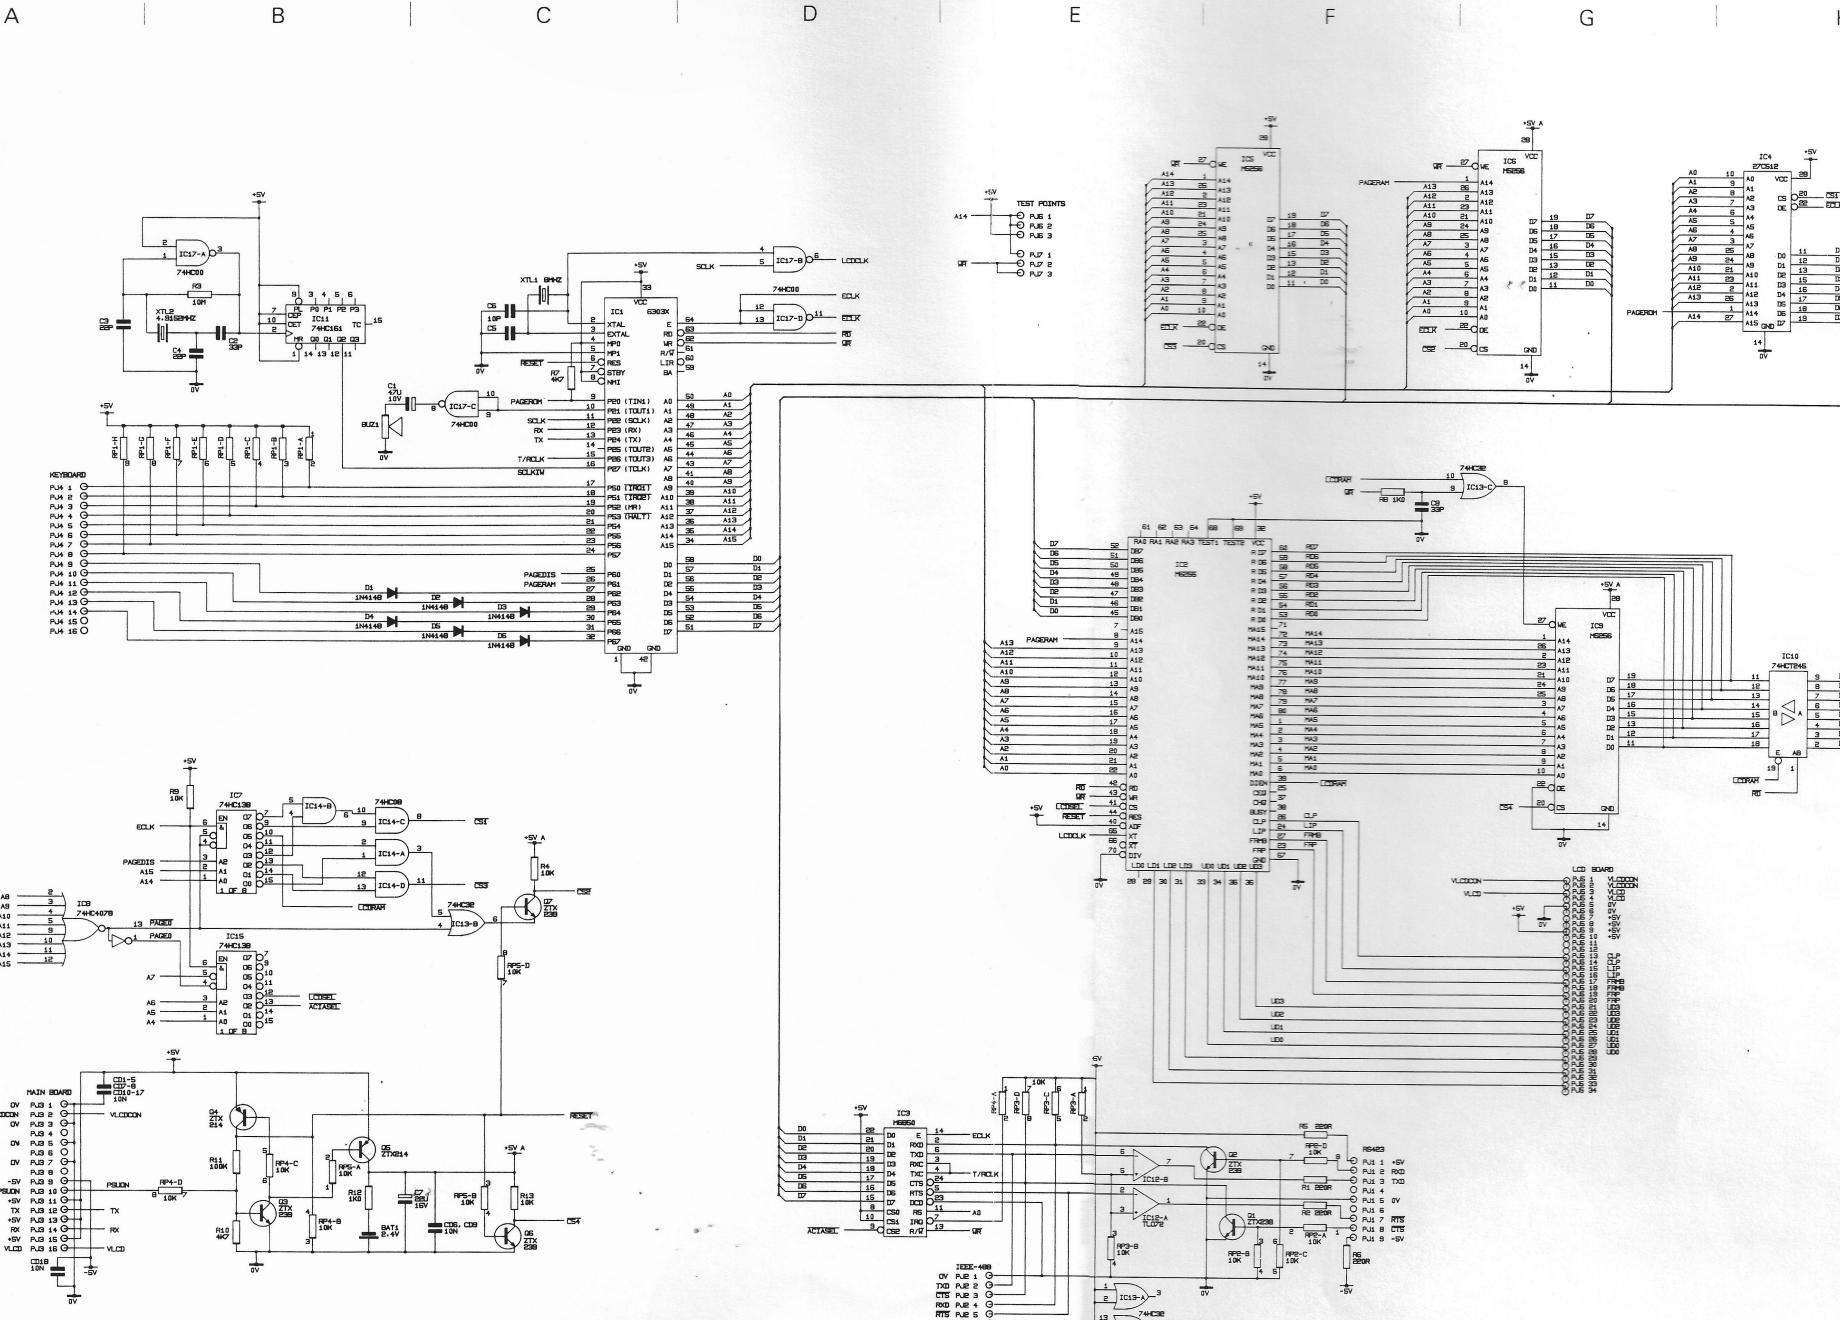

Fig 1 LA4800/LA3200 CPU BOARD
- Fig 1 LA4800/LA3200 CPU BOARD